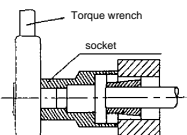
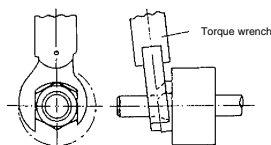
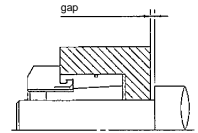

Fig. 2
Fig. 3
Fig. 4
- Tighten the nut to the specified tightening torque MA listed in the table 1 by using torque wrench. (See Fig.2 or Fig. 3) Keep the gap when mounting on the stepped shaft as shown in Fig.4.